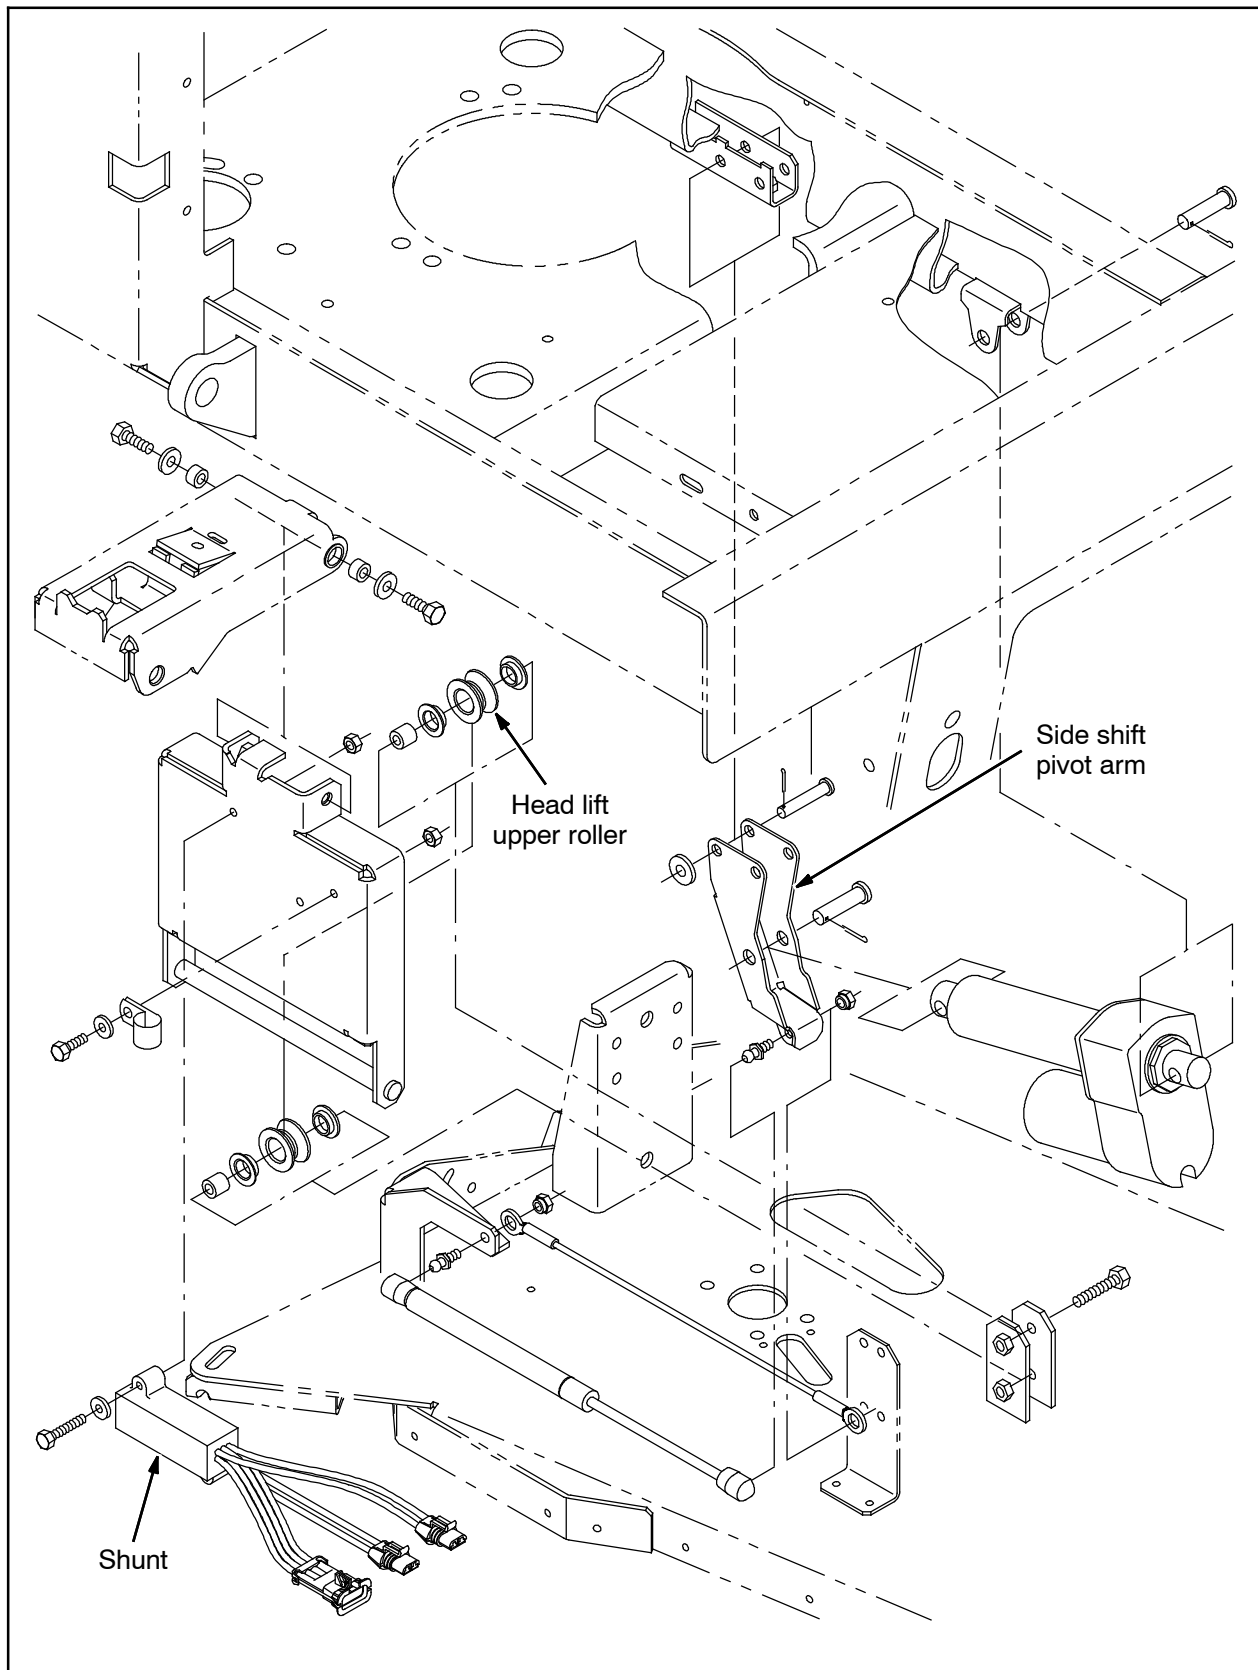

FIG. 3 - Max Pro 1000 HD Disc Brush Edge Scrub Group
4. Remove the hex screw holding the head lift UPPER roller to the mounting rail. Remove the roller from between the scrub head lift tabs. (Fig. 3)
11. Disconnect the end of the side shift gas spring where it connects to the scrub head. (Fig. 3)
12. Disconnect the end of the side shift cable from the scrub head. (Fig. 3)
13. Remove the cotter pins and slotted nuts from the ends of the scrub head drag links attached to the machine frame. (Fig. 3)
13. Use the manual electronic controls to carefully lower the lift rail down on the lower roller, placing it in between the lift tabs. Install the upper head lift roller using the M8 bolt. Tighten the roller mount screw to 18 to 24 Nm (15- 20 ft-lbs) .(Fig. 3)
14. Connect the side shift cable and gas spring to the scrub head with the set aside ball stud and nut. (Fig. 3)